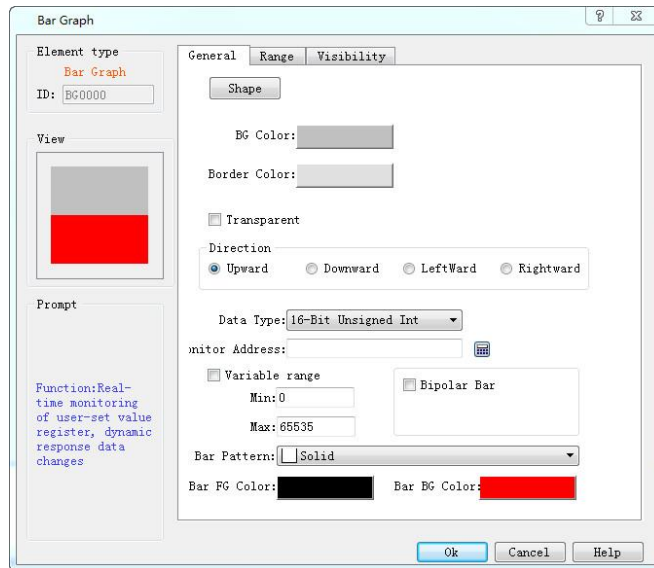

Figure 4-102 Bar chart dialog box
1. Select the Bar Chart icon  in the toolbar or the Tools menu. Then it appears a dialog box shown in Figure 4-102.
- Border Color: Set the border color of the bar. In Figure 4-102, the setting of border color is invalid; user can select the "shape" in another bar; the change is visible.